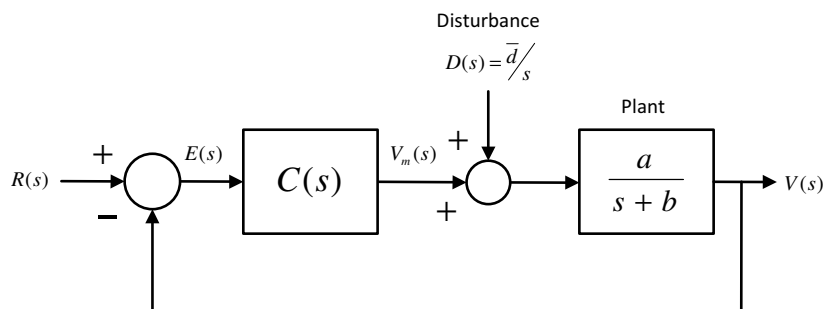

Figure 2: Block diagram of the closed-loop system
Problem Statement: Consider the feedback control system in Figure 2. Design the controller $C(s)$ to meet the specifications below.
1. Referring to Figure 2, verify that the plant has type 0. Hence, in order to meet SPEC1, you need a controller with a pole at zero. Letting $E(s) = R(s) - V(s)$, define the PI controller